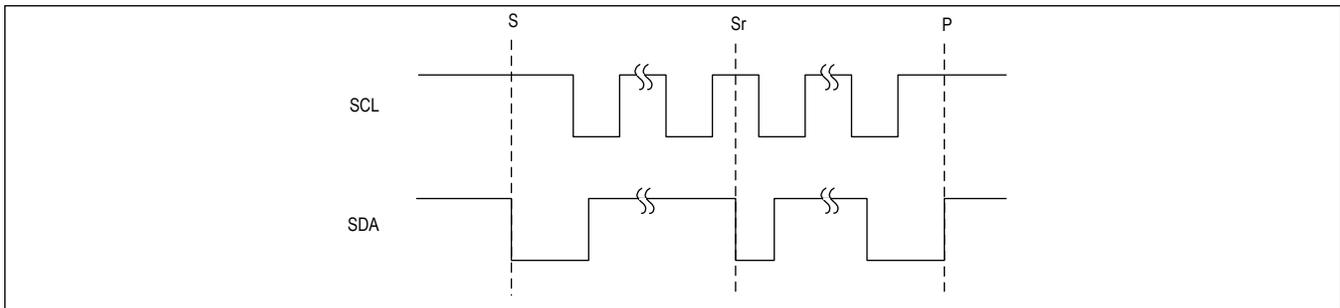

Figure 8. I²C START, STOP, and REPEATED START Conditions
When writing to the MAX20343/MAX20344 using I²C, the master sends a START condition (S) followed by the MAX20343/MAX20344 I²C write address. After the address, the master sends the register address of the register that is to be programmed. The master then ends communication by issuing a STOP condition (P) to relinquish control of the bus, or a REPEATED START condition (Sr) to communicate to another I²C slave. See Figure 8.